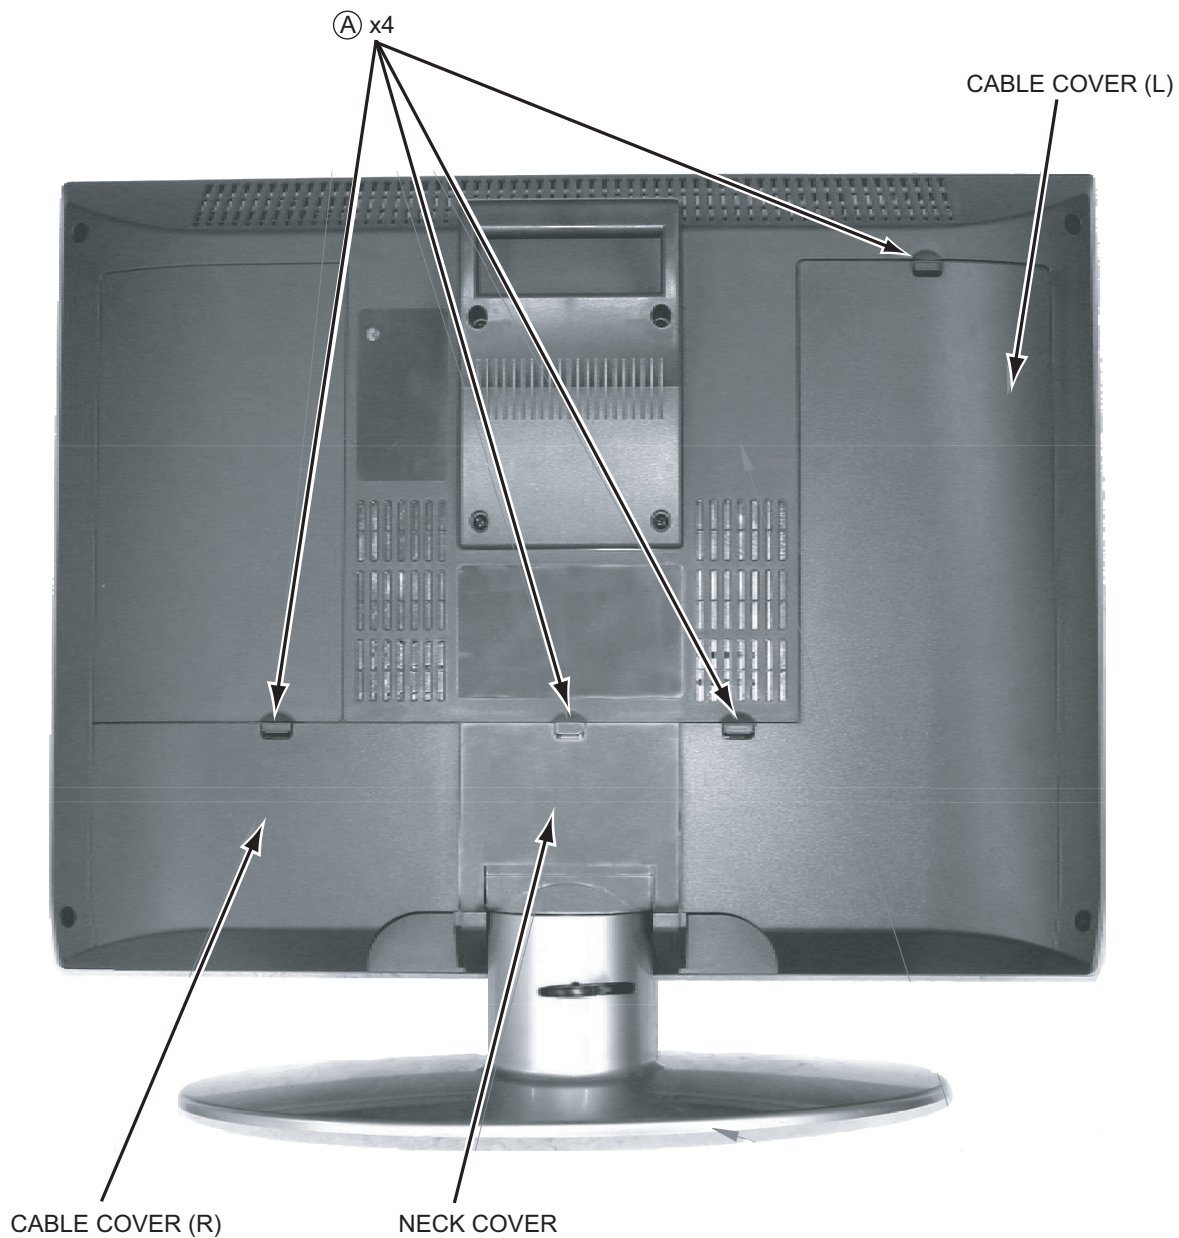

Fig.1
3.1.1 REMOVING THE CABLE COVER (L/R) AND NECK COVER (Fig.1)